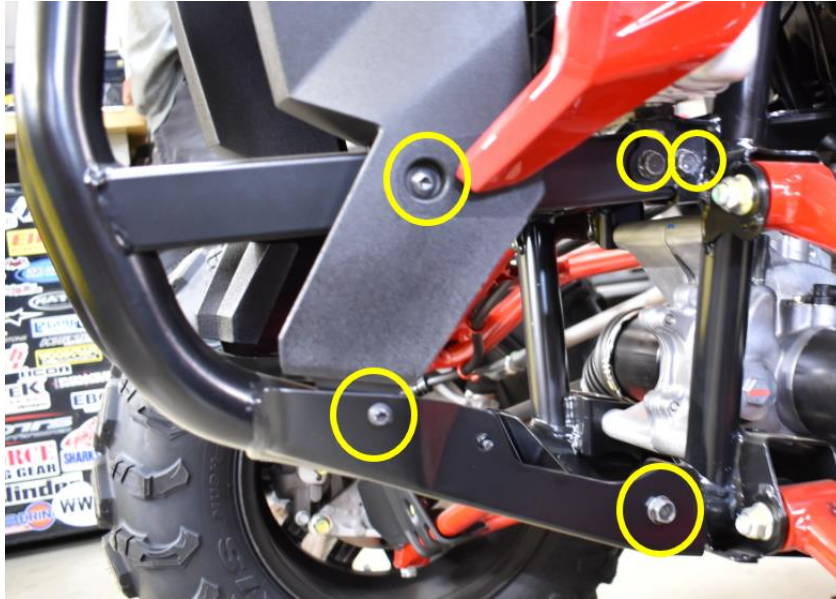

Figure 2
1. Remove the 10 bumper screws shown in Figure 2.
6. Reinstall the front bumper over the top of the winch plate. Verify that the plastic fascia overlaps the bumper in the original manner as seen in Figure 2.